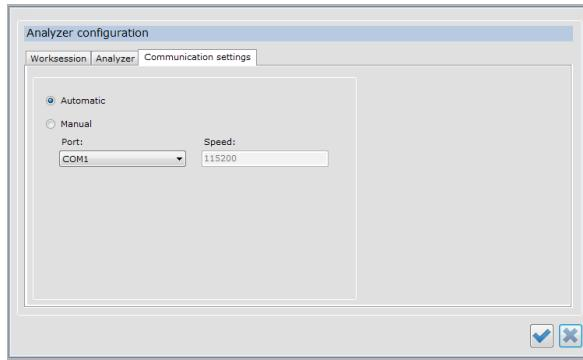

Figure 33 Communication setup
- Figure 33 shows the communication setup screen.